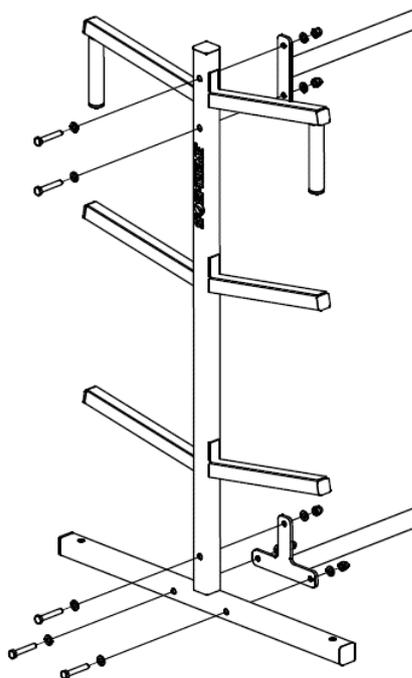

Figure 3: Connecting the side panels to the middle tubes
Using the hexagon bolts ⑨ with the corresponding washers ⑮ and dome nuts ⑫, screw the lower middle tube consisting of ④ and ⑤ to the two side panels ① (see figure 3).